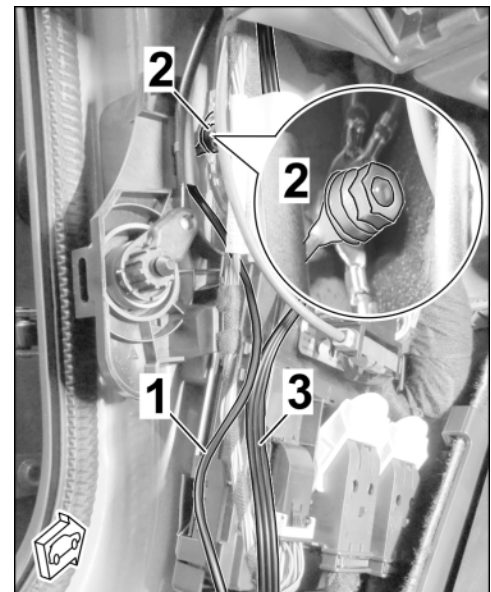

Figure 17
3.3.6 Route BK; 0.52 line (terminal 31) to ground pin MB11, shorten it and install it on ground pin MB11 using cable ring eyelet A6 (⇒ *Figure 17*).